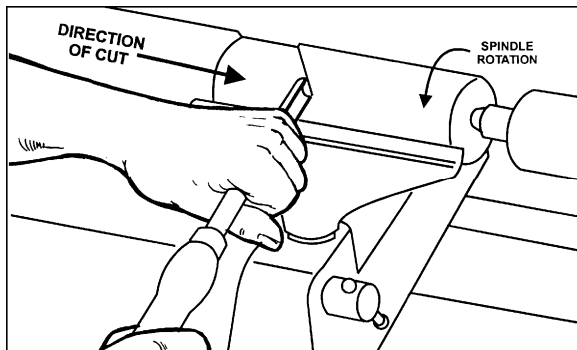

Figure 9-6
3. Beginning about 2" from the tailstock end of the workpiece, roll the flute (hollowed-out portion) of the tool in the direction of the cut. See Figure 9-6. Make long sweeping cuts in a continuous motion to rough the piece down to a cylinder.